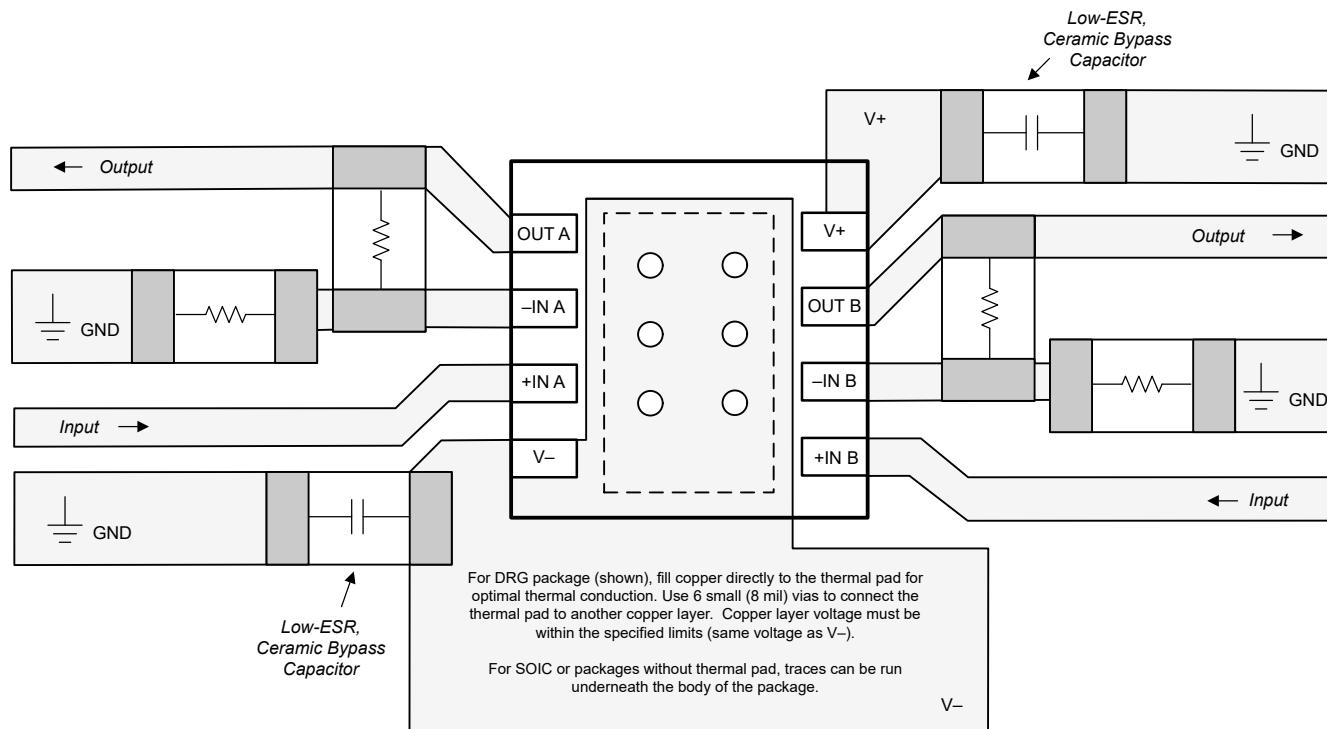

図 8-3. Dual Operational Amplifier Board Layout for Noninverting Configuration
- Place the external components as close to the device as possible. As illustrated in 图 8-3, keeping RF and RG close to the inverting input minimizes parasitic capacitance.